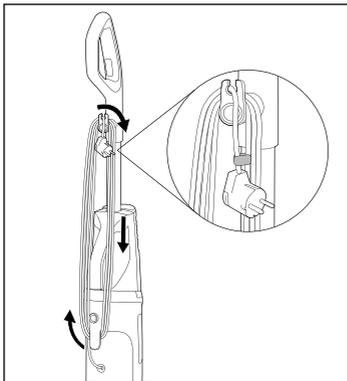

Fig. 3
- ◆ Wind the power cable ❶❷ completely around the upper and lower cable retainers ❶❸/❶❹ (see fig. 3).